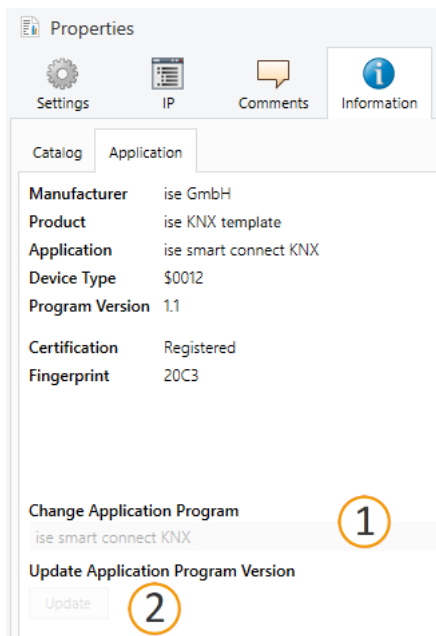

Figure 17: Updating the application program
5. Select the <<Update>> button under the item <<Update application program version>> (see figure 17, item. 2)
○ If you change the value under <<Change application program>> (see figure 17, item. 1), user-defined settings such as links to group addresses will be lost.